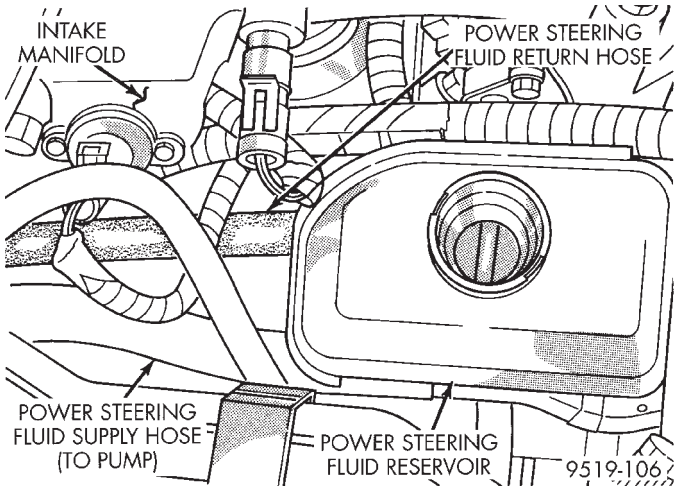

Fig. 8 Power Steering Fluid Supply Hose At Reservoir
(2) Remove hose clamp, attaching power steering fluid supply hose to the power steering fluid reservoir. Then remove power steering fluid supply hose from power steering fluid reservoir (Fig. 8).
(3) Install power steering fluid supply hose on power steering fluid reservoir fitting (Fig. 8). Install hose clamp on power steering fluid supply hose at power steering fluid reservoir. **Be sure hose clamp is installed on return hose past upset bead on power steering fluid reservoir.**